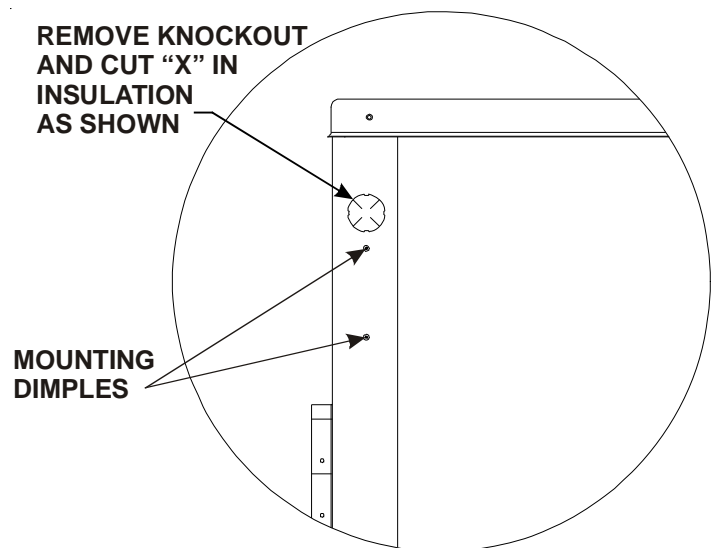

Figure 1
3. Remove the knockout from the duct panel located next to the blower door (see Figure 1).
4. There will be insulation behind the knockout on the inside of the unit. Cut an "X" into the insulation as shown in Figure 1.